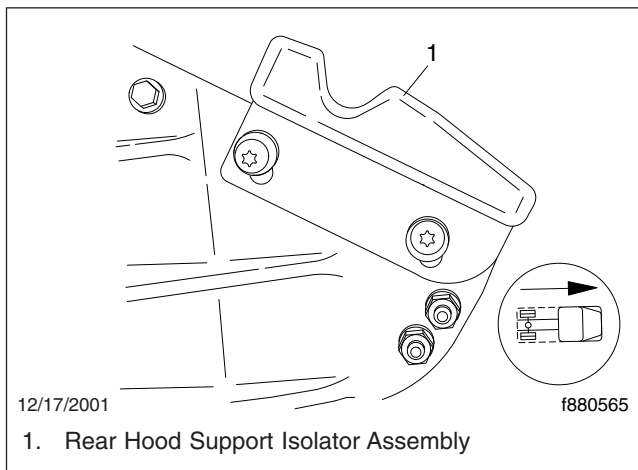

Fig. 2, Rear Hood Support Isolator
- 3.2 If not already done, at the side(s) of the hood that must be moved, loosen the two fasteners that attach the rear hood support isolator assembly to the hood, just enough to allow the hood support assembly to move up or down for adjustment. See Fig. 2.